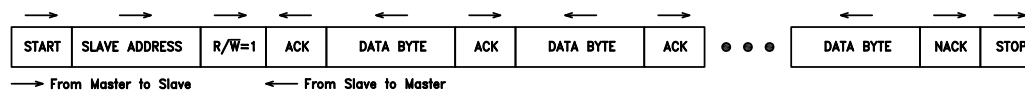

Figure 3. Master reads from slave.
**Read Cycle** (master reads from slave immediately after first byte. See Figure 3: the direction of data transfer changes between master and slave. In this case the R/W bit is set to 1 to indicate that the master will read data from the slave device. The address of the internal register from which the data is to come has been previously set in a precedent Write cycle, otherwise the slave device defaults to address 0. This time the slave device transmits all the data bytes and the master replies with an acknowledge bit, except for the last byte read, in which case the master replies with a No-acknowledge bit to indicate to the slave that it must stop transmitting data. The master then generates a Stop condition and the cycle ends.